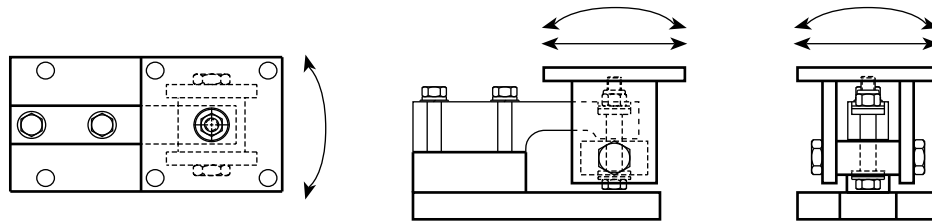

Figure 8-9. RL1900 Modules
Figure 8-9 illustrates the RL1900 modules with arrows indication allowable movement.
- A chair arrangement is attached to the trunnion block through pivot screws; the load is applied to the top plate of this chair. This arrangement allows the chair to move in the directions indicated in Figure 8-9.